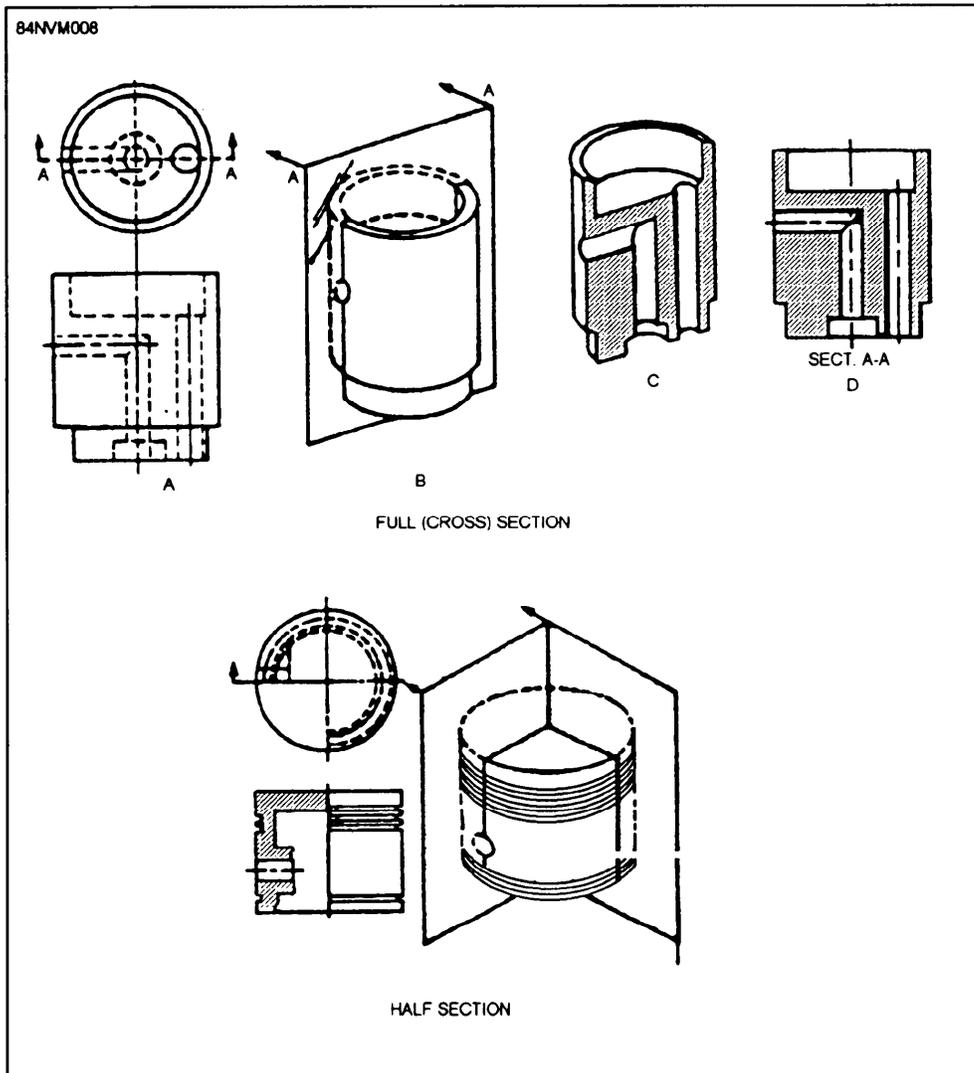

Figure 13-8.—Full- and half-sectional views.
**SECTIONAL VIEWS.**—Sectional views are used to give a clearer view of the interior or hidden features of an object. These hidden features usually cannot be clearly observed in conventional outside views. Sectional views are made as if they were a cutaway part of the object along a given cutting plane. Full, half, and offset sectional views are the most commonly used on drawings. Figure 13-8 shows full- and half-sectional views. Notice the cutting plane line as shown by the letter AA. It shows where the imaginary cut has been made.
**Half-Sectional View.**—A half-sectional view is used when the object to be shown is symmetrical in both inside and outside details. It is assumed that the details shown in the uncut section are identical to the cutaway section. Only a quarter of the object is sectioned; the other quarter is shown as a standard view. The term *half section* means that only half of a full section is cut away. Again notice the cutting plane as shown in figure 13-8.